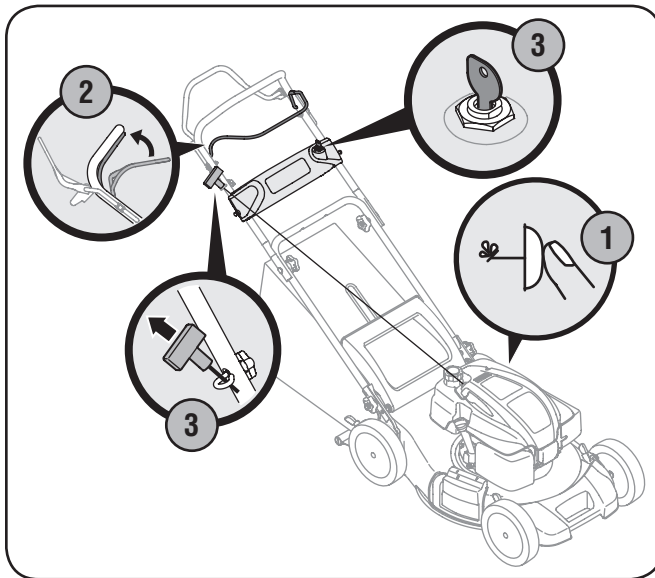

Figure 5-1
1. Push primer 3 times. Wait about two seconds between each push. See Figure 5-1. In temperature below 50°F, prime 5 times. After the engine is warmed up, one prime may be needed for all temperatures.
3. **Recoil Start:** Pull the recoil starter lightly until resistance is felt, then pull rapidly to overcome compression, prevent kickback, and start the engine. Repeat if necessary. See Figure 5-1.
Electric Start: Turn ignition key to the right to start the engine. Release the key after the engine starts. See Figure 5-1.